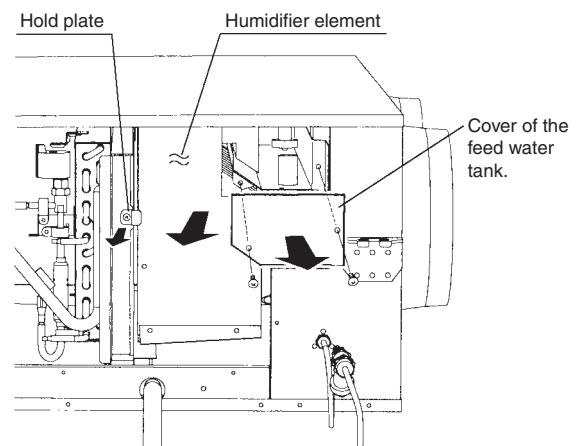

Fig. 4
3. Remove the cover of the feed water tank. (Fig.4)
4. Remove the hold plate. (Fig.4)
5. Pull out the Humidifier elements. (Fig.4)